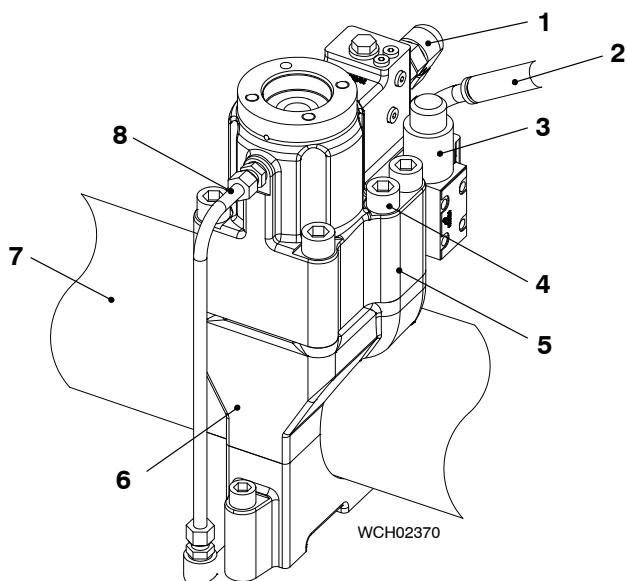
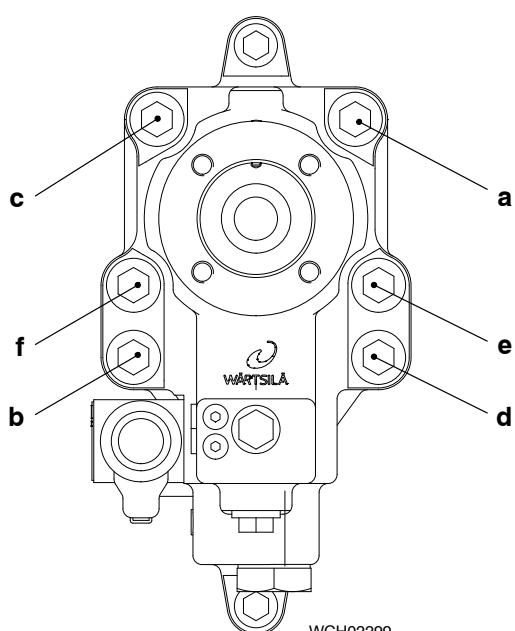

Fig. 3
Fig. 4
- 3) Remove the blanks from the ports in the VCU (5, Fig. 3).
- 4) Remove the protection from the holder (6) and the servo oil rail (7).
- 5) Clean the seating surfaces of the VCU (5) and the holder (6).
- 6) Make sure that the seating surfaces of the holder (6) and the VCU (5) have no damage.
- 7) Carefully put the VCU (5) in position on the holder (6).
- 8) Apply oil to the threads of the six screws (4).
- 9) Tighten with your hand the six screws (4).
- 10) In the sequence given in Fig. 4, torque the six screws to 350 Nm.
- 11) Install the supply pipe (8, Fig. 3) to the VCU (5).
- 12) Install the return pipe (1) to the VCU (5).
- 13) If the VCU (5) installed is nearest the driving end of the servo oil rail (7), do the step a):
- a) Install the HP hose (2) to the VCU (5).
- 14) Connect the electrical connection to the 4/2-solenoid valve (3).